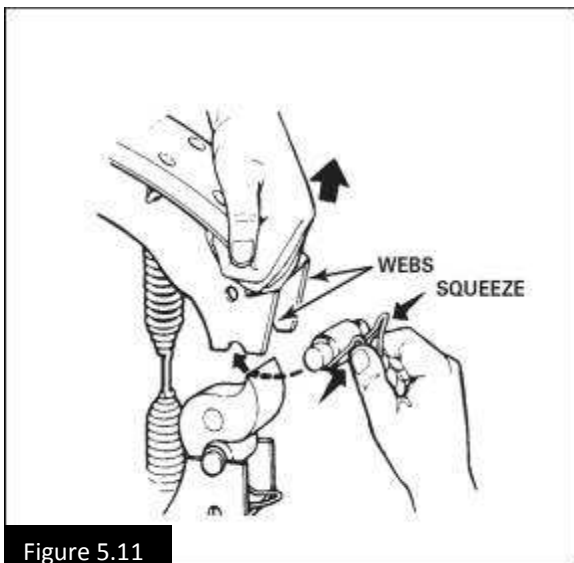

Figure 5.11
19. Pull each brake shoe away from the cam permitting enough space to install the cam rollers. Press the ears of the roller retainer clip together to fit the retainer between the brake shoe webs. Figure 5.11.